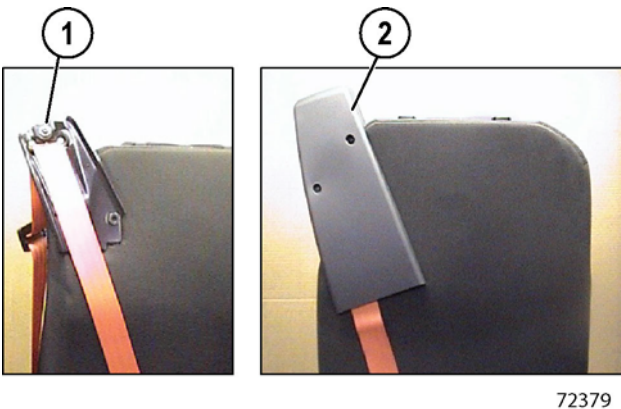

FIGURE 3-39.
9. Push the seat belt through the upper mount. Reinstall upper seat belt bolt (1, Figure 3-39) and tighten to **$35 \pm 5 \text{ N}\cdot\text{m}$ ($26 \pm 4 \text{ ft lb}$)** while holding the nut on the back side with a wrench. Reinstall the upper seat belt cover and tighten screws to 4 N·m (3 ft lb). Reattach the plastic bezel to the tongue.